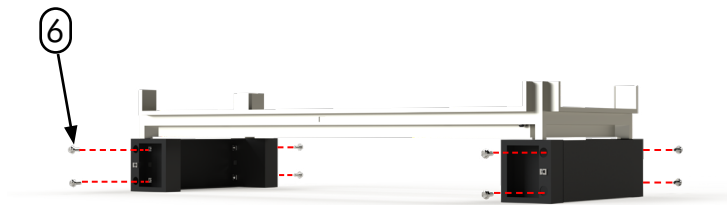

Figure 5
- Insert screws through the corner elements' circular cutouts and fasten into the cage nuts on the side flange (Figure 5).
Insert the M6 hex screws (eight total) through the corner element circular top and bottom side cutouts. The screws will secure the side flanges and corner elements together using the side flange cage nuts (Figure 5).